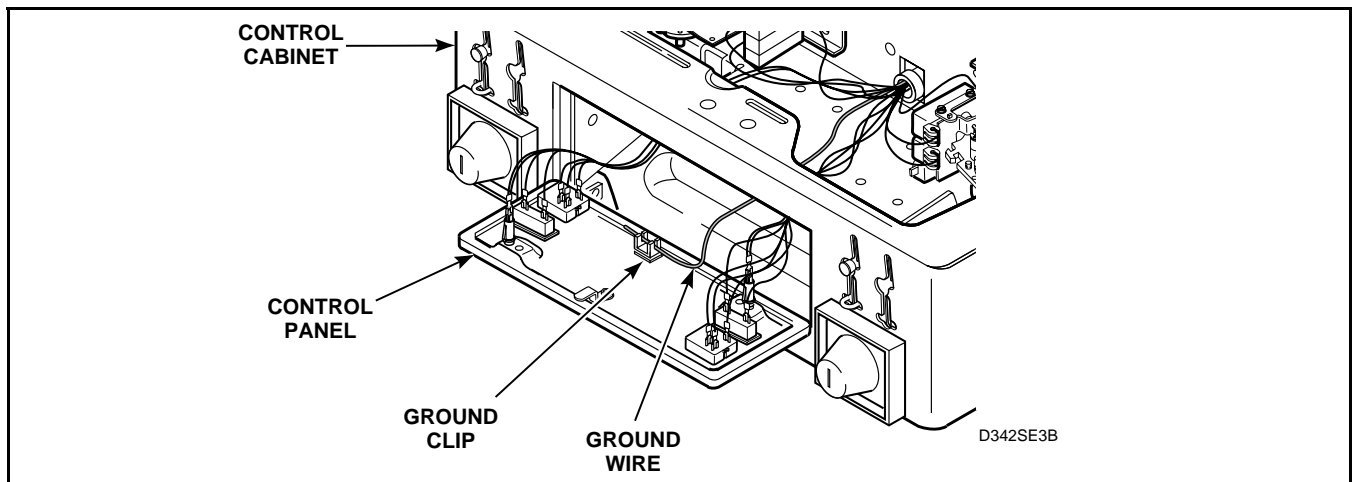

Figure 9
- d. Disconnect all wires to components. See Figure 9.
- e. Remove ground clip holding ground wire to control panel. See Figure 9.
- d. Disconnect all wires to components. See *Figure 9*.
- e. Remove ground clip holding ground wire to control panel. See *Figure 9*.
- (4.) Disconnect all wires to components. See *Figure 9*.
- (5.) Remove ground clip holding ground wire to control panel. See *Figure 9*.